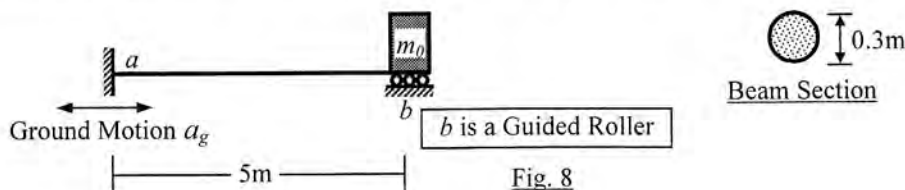

Fig. 8
10. Use *Constant Average Acceleration (CAA) Method* to calculate the horizontal deflection at node b of the weightless beam ab (supporting a mass $m_0 = 100$ kN-s²/m at b) shown in Fig. 8 at time $t = 0.01$ sec after starting from rest, if it is subjected to ground acceleration $a_g = 3 \cos(50t)$ (m/sec²) [Use stiffness $k = EA/L$ for the beam, with $E = 20$ GPa, $\xi = 0.05$, $c = 2\xi\sqrt{(km)}$].